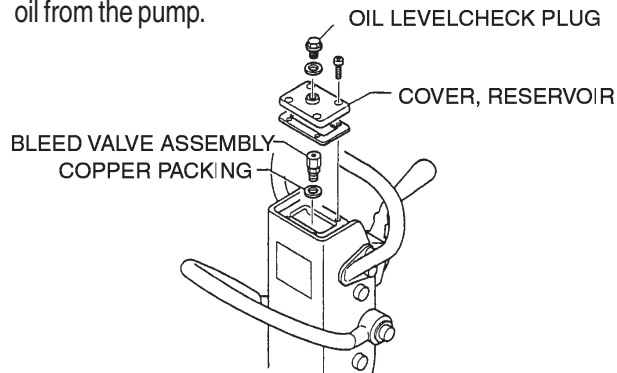

Figure 28. Hydraulic Oil Maintenance
1. Remove the hydraulic hoses (left and right) which enters the cylinder of the vibrator from the hydraulic pump (Figure 28) and move the travel lever back and forth to drain the hydraulic oil from the pump.